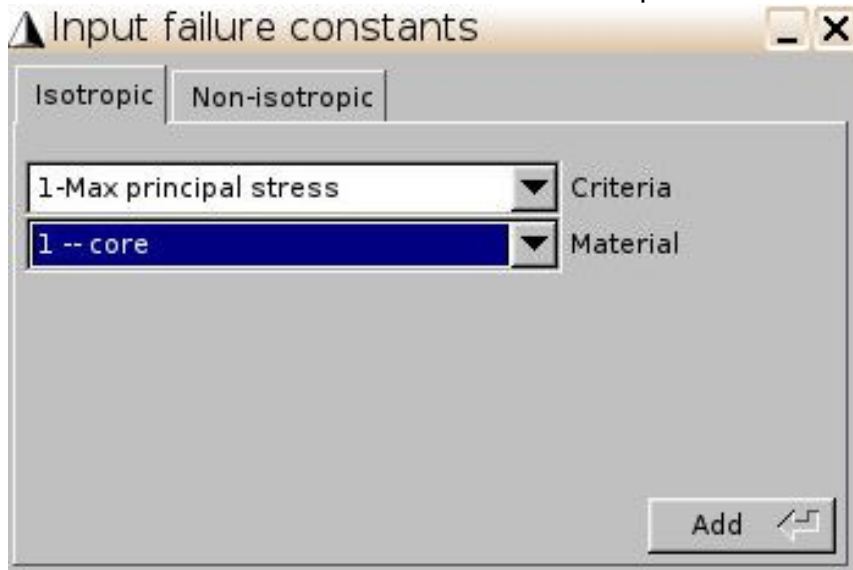
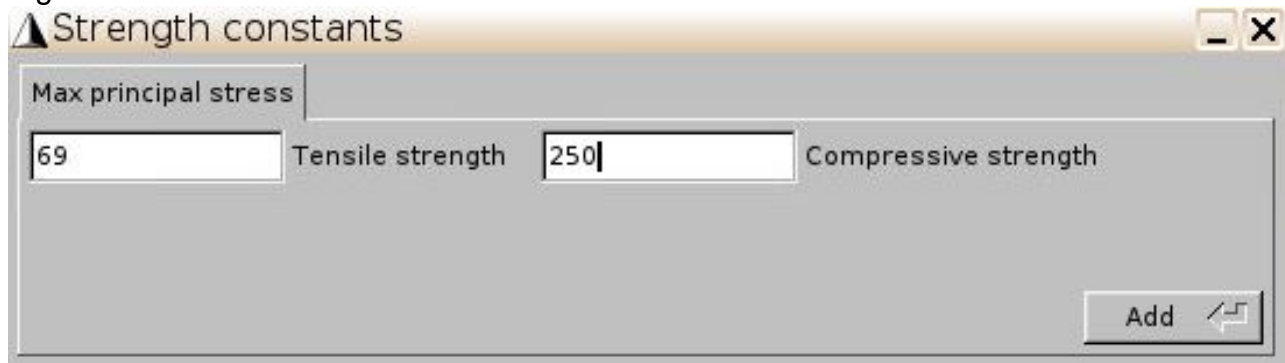
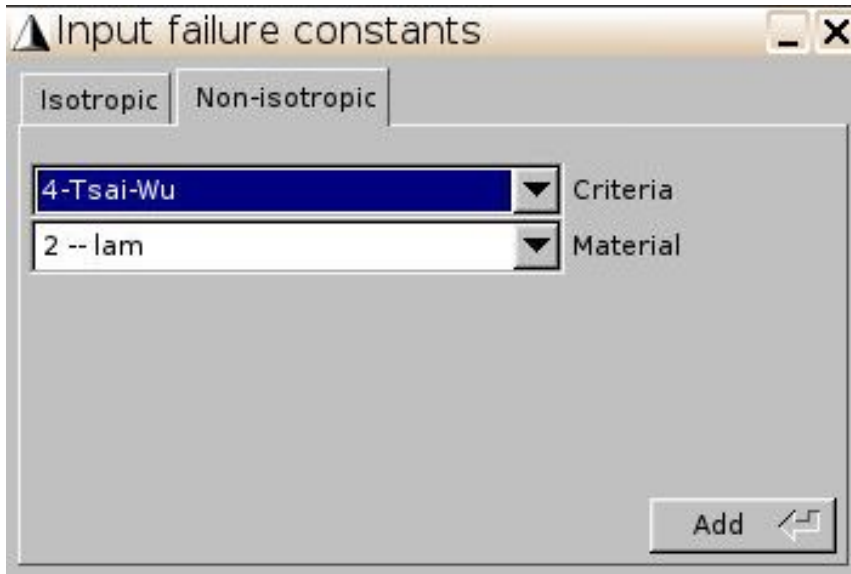

Fig. 6
Fig. 7
Fig. 8
* Click SwiftComp->Static failure->Input failure constants. Assign failure criterion (max-stress) to the core first (Fig. 6.) and input the failure constants (Fig. 7.). Repeat this step to define the fiber failure constants as shown in Fig. 8 and 9. Note that the lam is non-isotropic material and we will use Tsai-Wu failure criterion in this example.